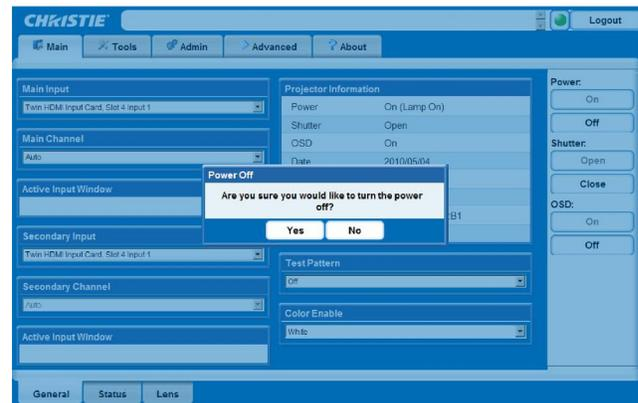

FIGURE 2-16 POWERING DOWN/WEB USER INTERFACE
1. From the **Main** Tab, Select **Power>OFF**. **NOTE:** A window will display for confirmation on powering down, see Figure 2-16.